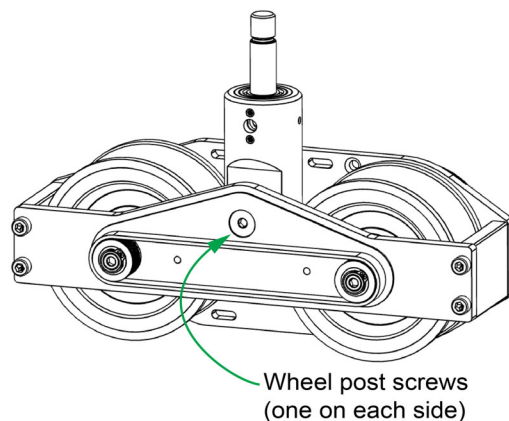

Figure 17 - Removing the Drive Wheel Post Screws
2. Use two 5 mm hexagonal wrench to remove the wheel post screws (one on either side), as shown in **Figure 17**.